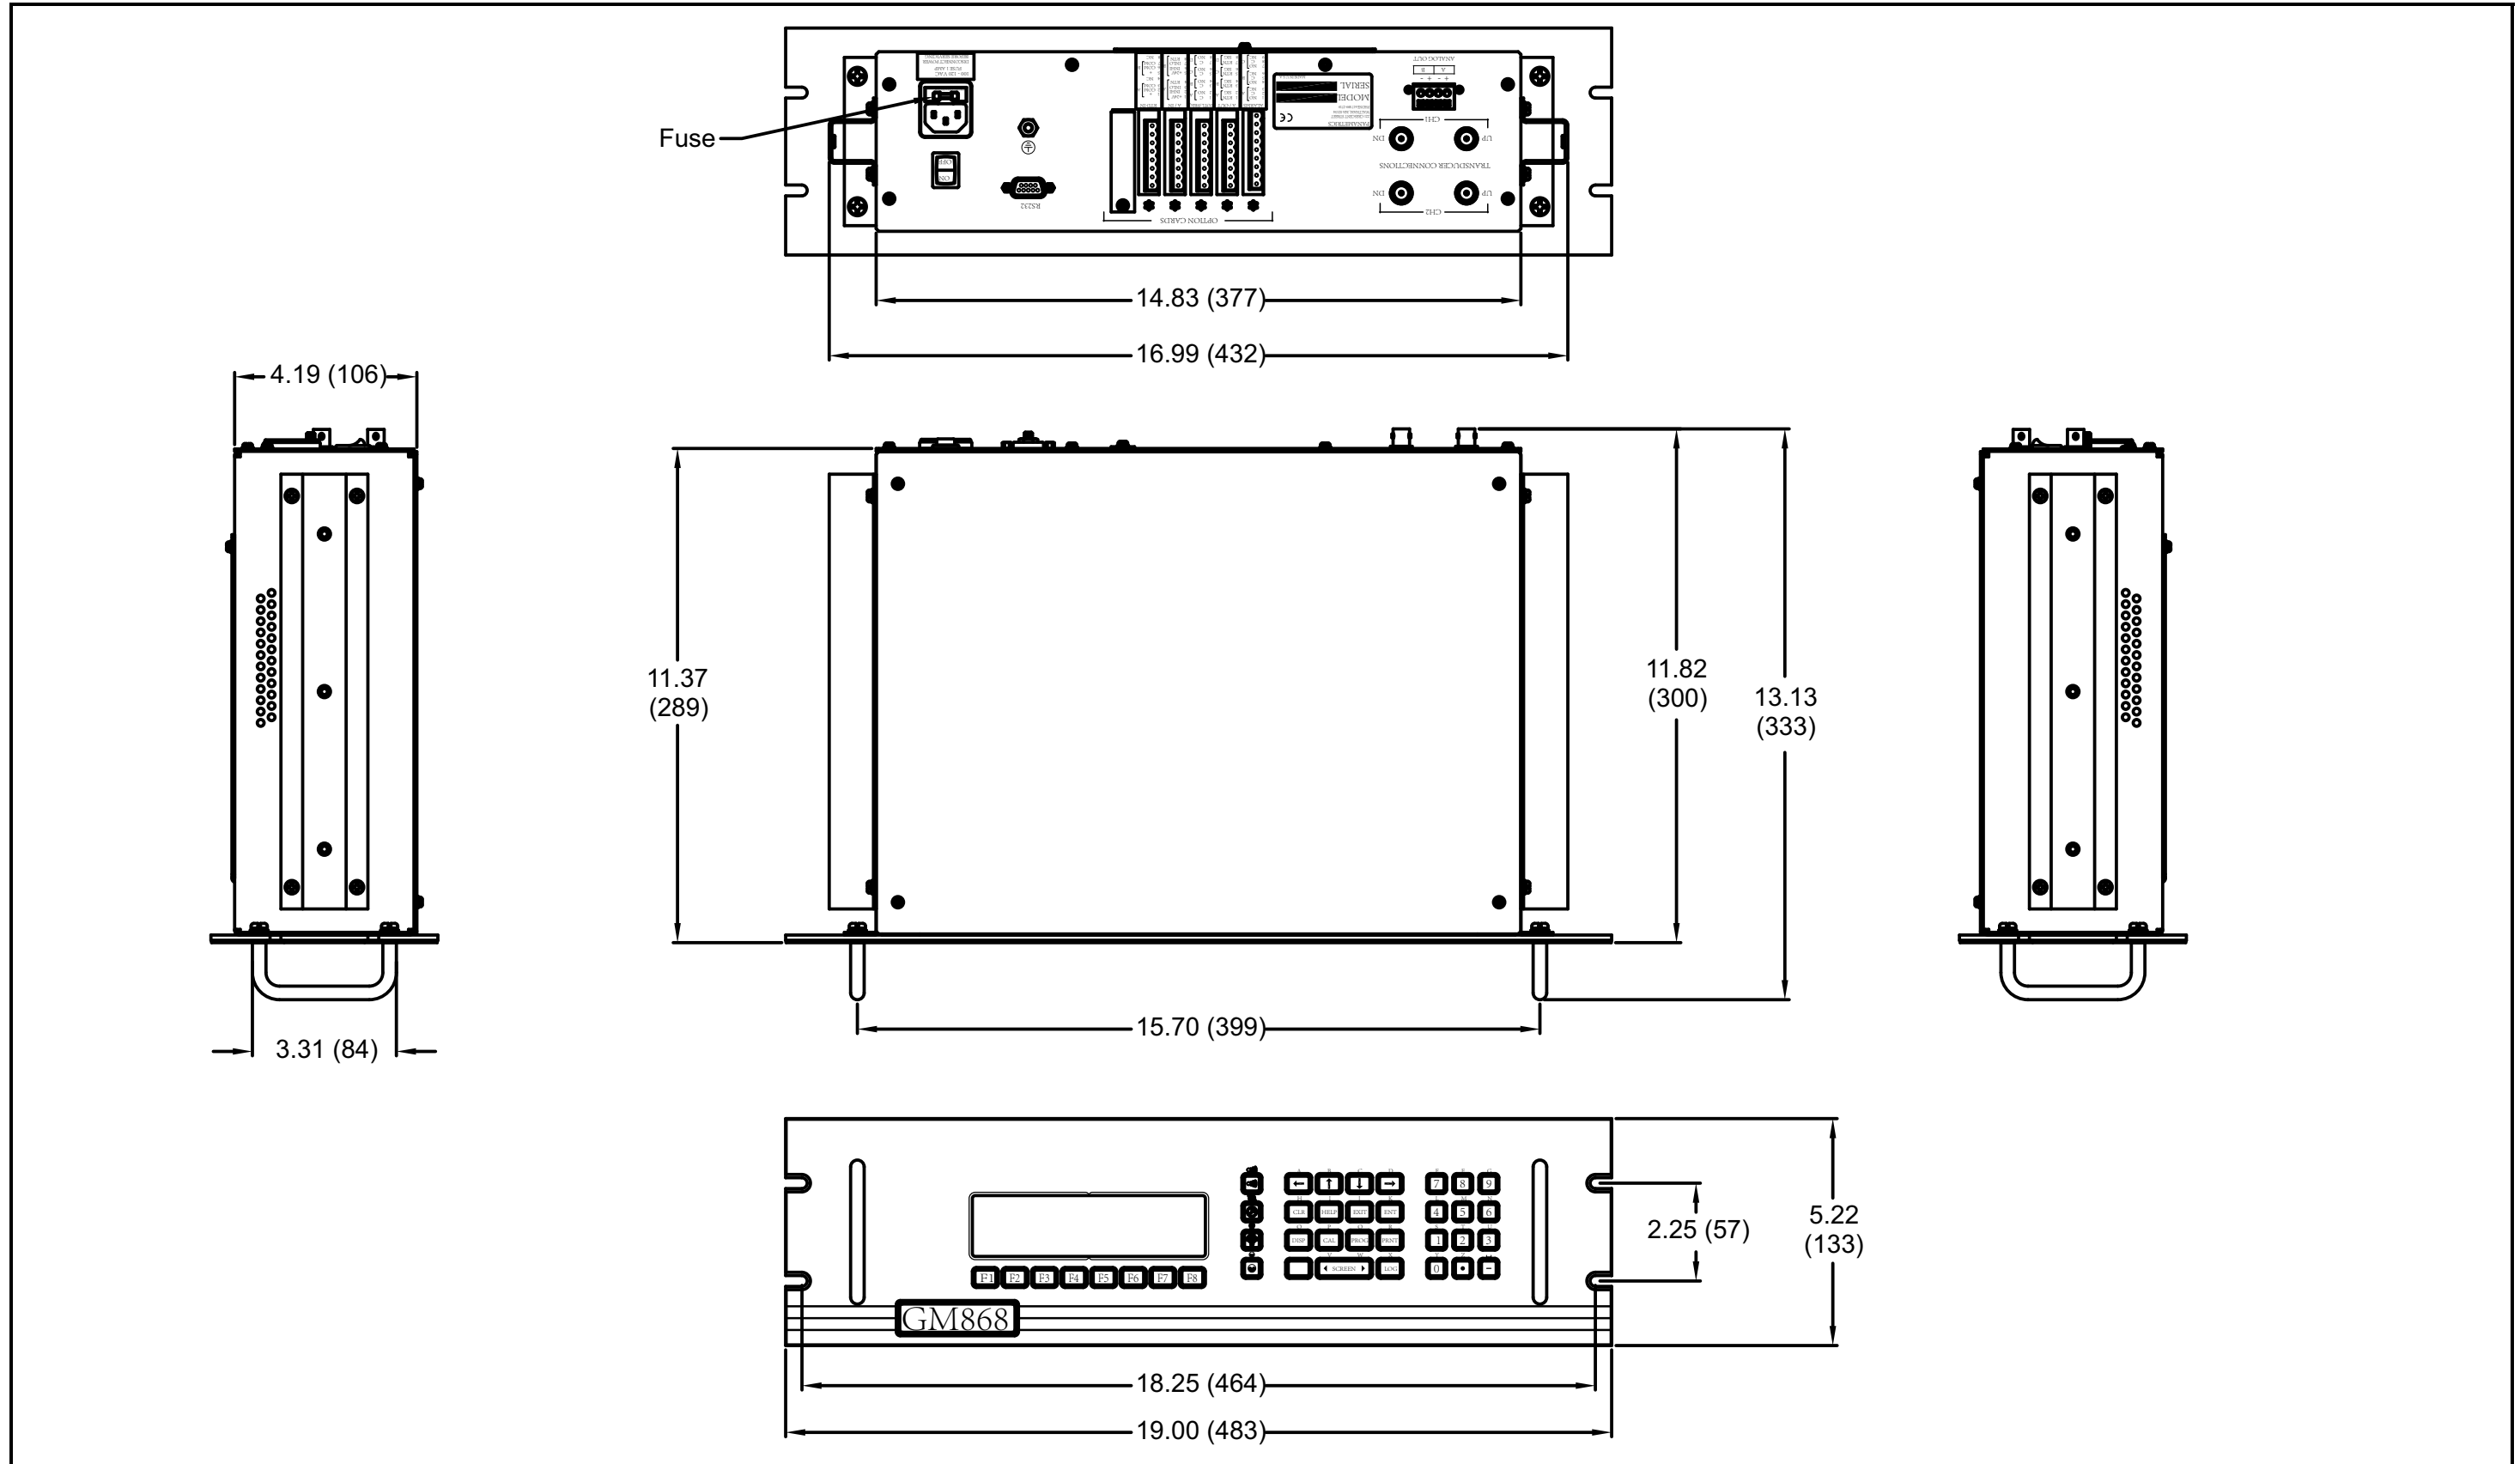
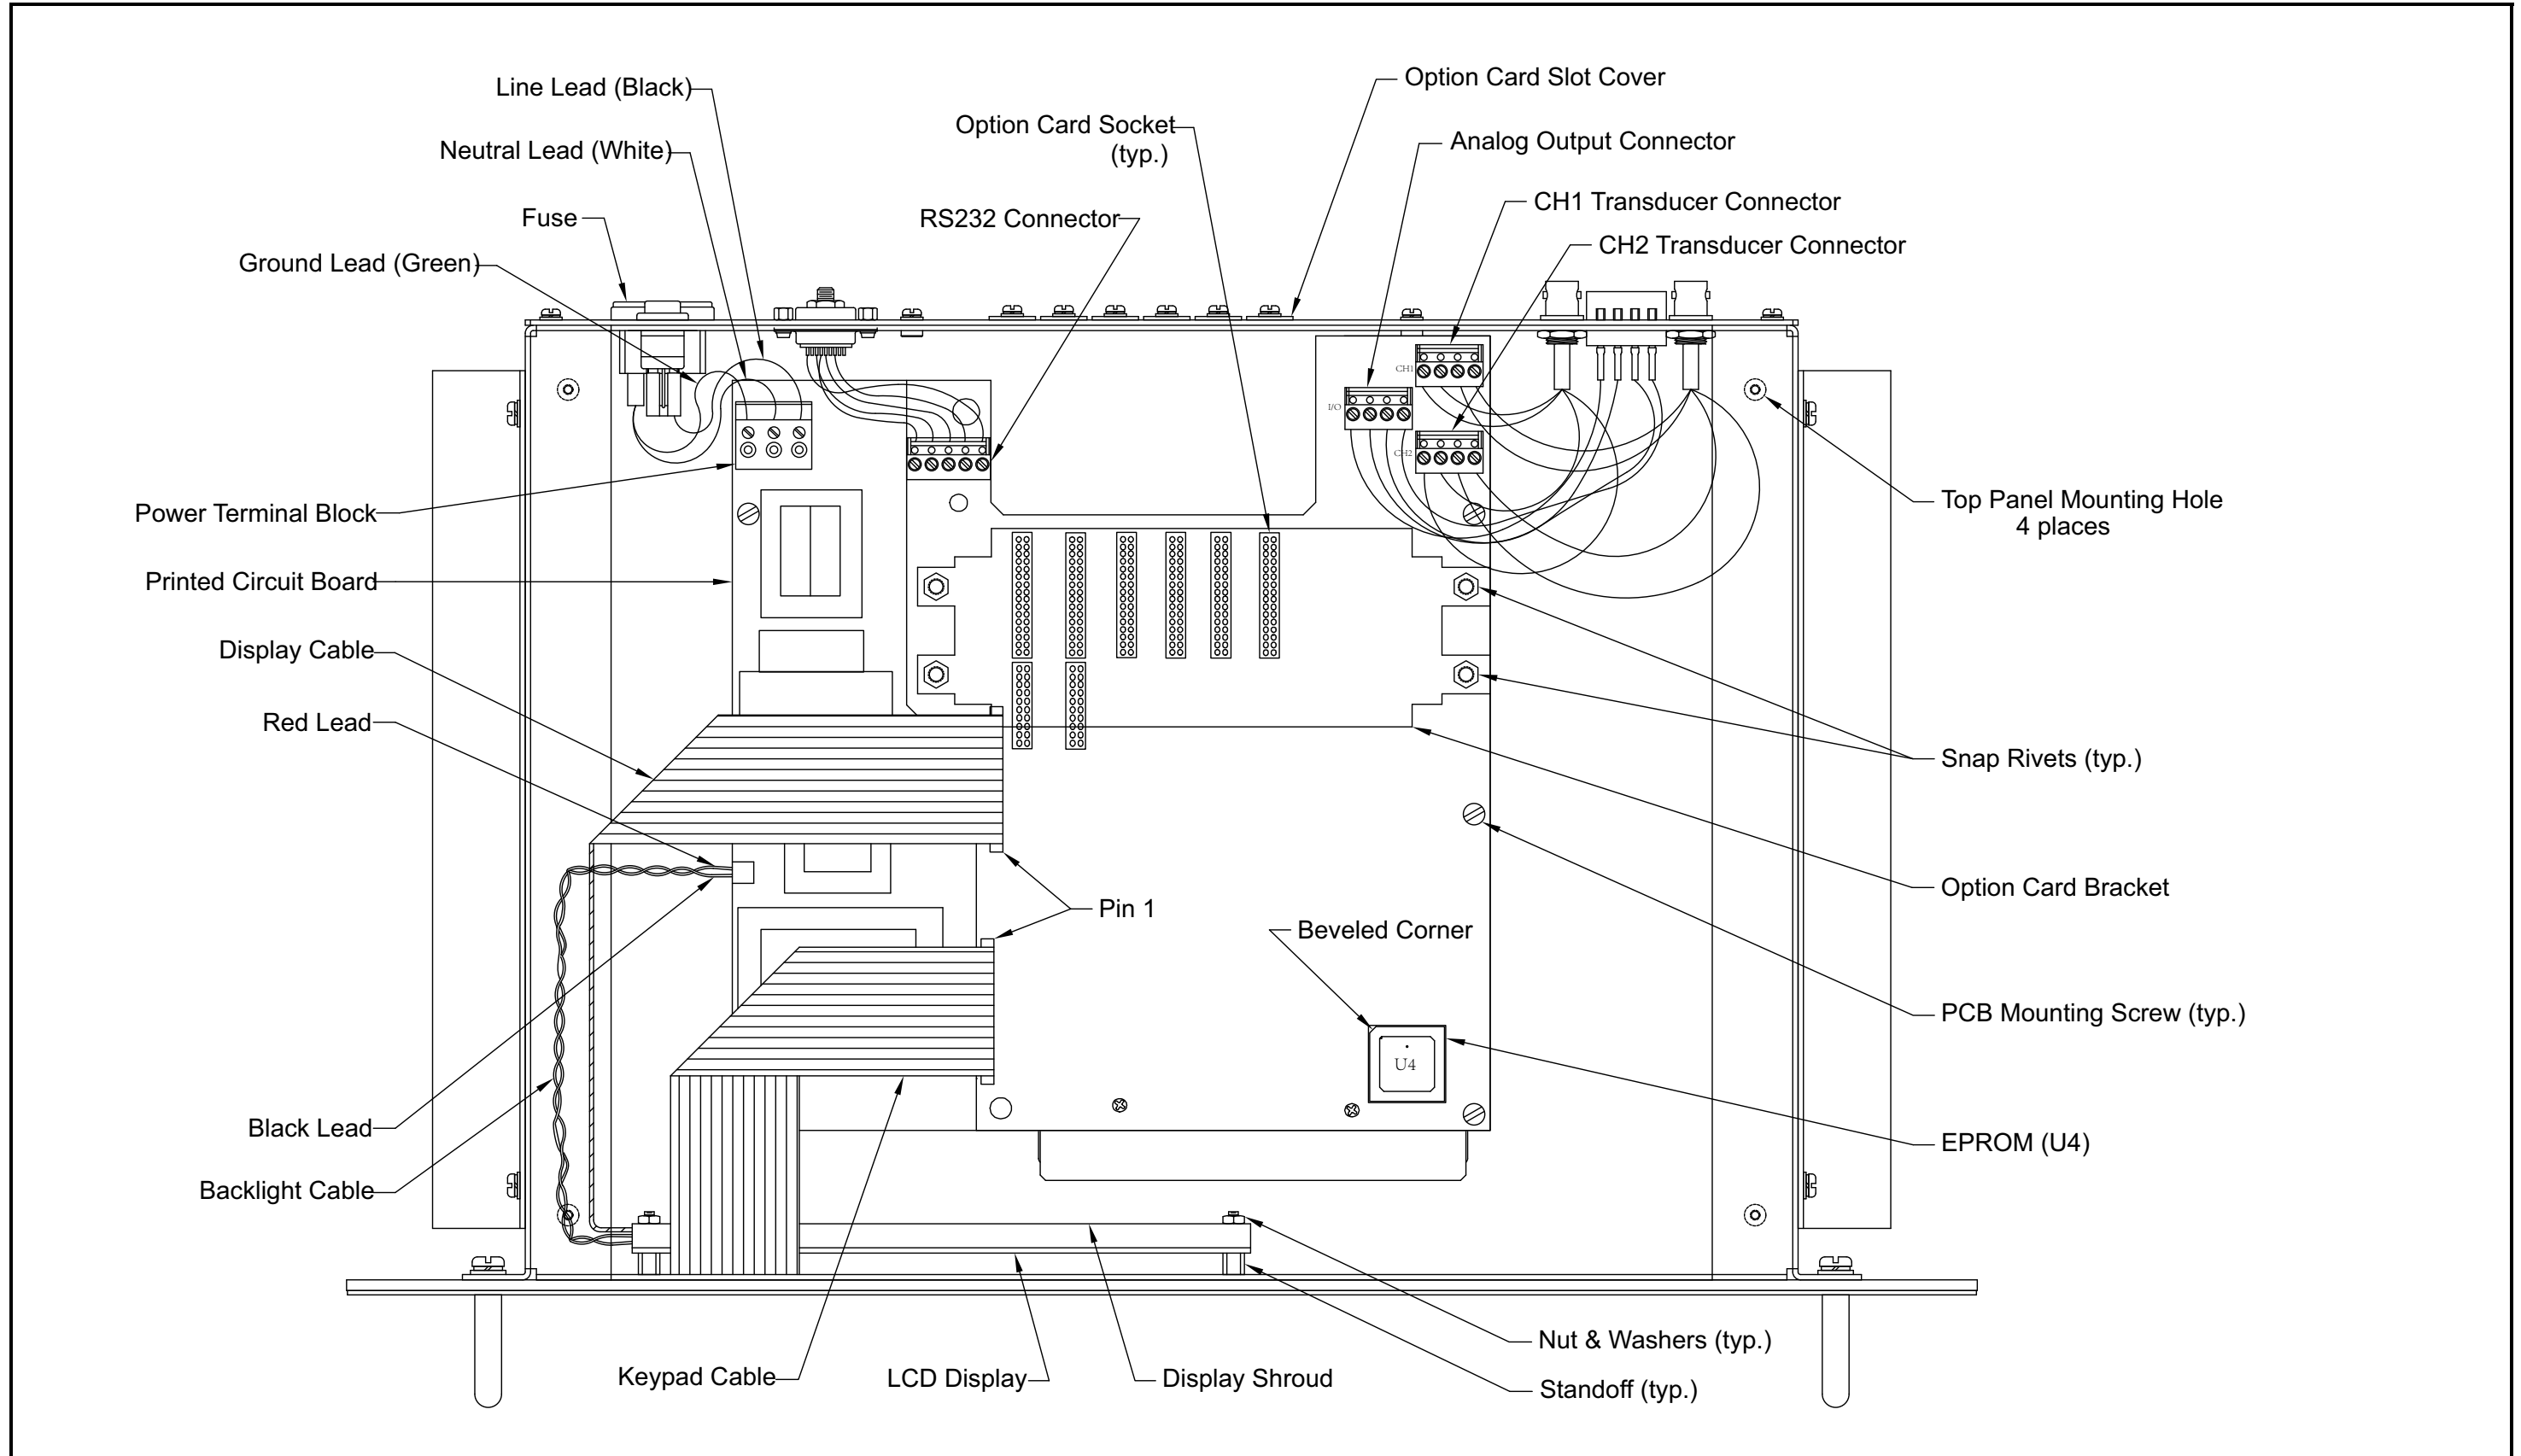

Figure 10: Model GM868 Rack Mount Enclosure Dimensions - (ref. dwg #712-1076)
Figure 11: Model GM868 Rack Mount Console Assembly - (ref. dwg #705-849)
Refer to Figure 10 on page 53 and Figure 11 on page 54 for the location of the relevant components, while completing the following procedures. If the top panel of the meter is accessible, service may be performed without removing the meter from the rack. Otherwise, disconnect all rear panel electrical connections and remove the meter from the rack before proceeding.
If it has been determined that the fuse in the Model GM868 requires replacement, refer to Figure 10 on page 53 and Figure 11 on page 54, and complete the following steps:
Refer to Figure 11 on page 54 and complete the following steps:
EPROM replacement may be required to replace a defective chip or to upgrade to a newer software version. To replace the EPROM, refer to Figure 11 on page 54 and complete the following steps:
To replace the LCD display, refer to Figure 11 on page 54 and complete the following steps:
5. Install the RS232, ANALOG OUT and TRANSDUCER connectors onto the printed circuit board at the locations indicated in Figure 11 on page 54. Make sure the marked pin #1 sides of the connectors face the right side (keypad side) of the enclosure.